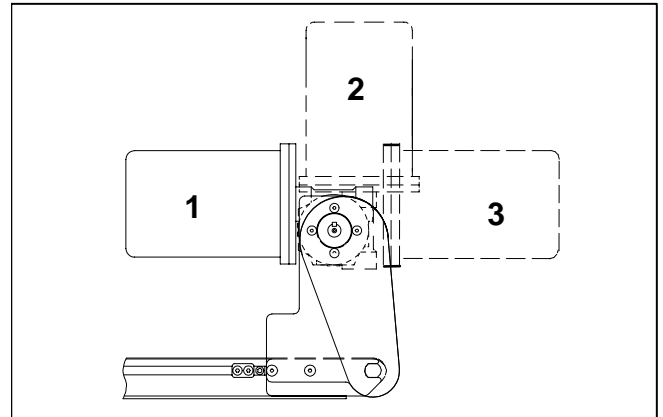

Figure 3
**NOTE:** Gearmotor may be operated in positions 1, 2 or 3 (Figure 3). Operating in position 2 may require additional support. Contact factory for details.